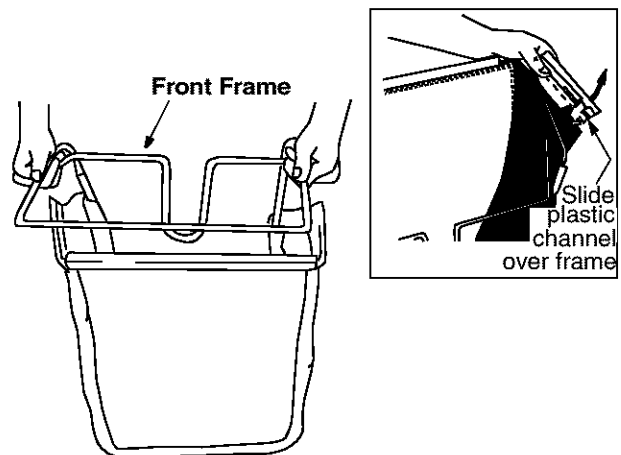

Figure 7
- Slide the front frame assembly into the rear frame as shown in Figure 7. Push the front frame in so that the cross piece on the front frame contacts the rear frame.
- Slip the openings of the plastic channel on bag over the grass catcher frame. See Figure 7 inset. Secure front of bag to front frame by working the five plastic channels on bottom, sides and top of bag over frame.